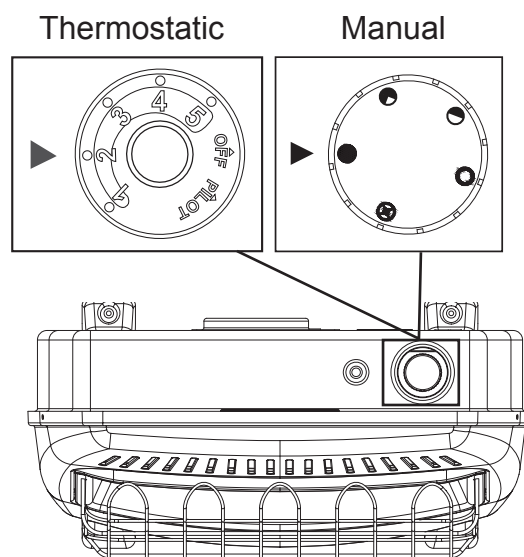

Fig. 25 - Control Knob Position
The control knob can be set to any comfort level between "HIGH" (5) and "LOW"(1) (See Fig. 25). The thermostat used on this heater senses the room temperature. At times the room may exceed the set temperature. When this begins to happen, the burner will begin to modulate the BtuH down until the unit meets the desired heat setting and shuts off. When the room temperature drops below the desired heat setting, the burner will cycle back on. The unit may start at a lower BtuH rate if the room is still warm.
Manual valves remain burning at the desired setting until manually turned to OFF "O"(See Fig. 25).